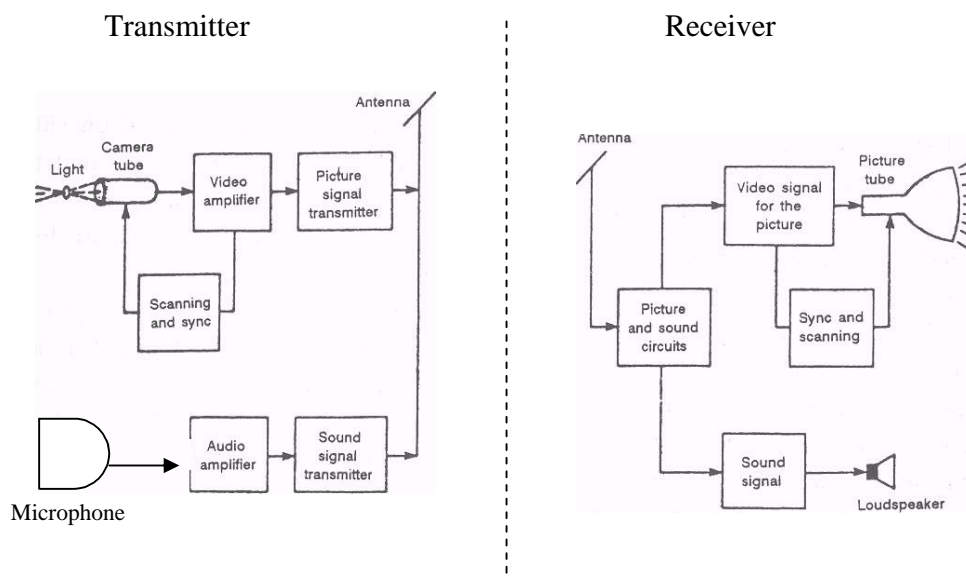

Figure 16-1. Block Diagram of the Television Broadcasting System.
The term 'broadcasting' means to send out in all directions. As illustrated in Figure 16-1, the transmitting antenna radiates electromagnetic radio waves that can be picked up by the receiving antenna. For commercial television broadcast stations, the service area is about 25 to 75 mi in all directions from the transmitter. The radiation is in the form of two rf carrier waves, modulated by the desired information. Amplitude modulation (AM) is used for the picture signal. However, frequency modulation (FM) is used for the sound signal.
Referring to Figure 16-1, we see that the desired sound for the televised program is converted by the microphone to an audio signal, which is amplified for the sound-signal transmitter. For transmission of the picture, the camera tube converts the visual information into electrical signal variations. A camera tube is a cathode-ray tube with a photoelectric image plate.
is necessary to reassemble the picture information on the correct lines. These functions are provided by the block of scanning and synchronizing circuits shown in Figure 16-1 for the transmitter and receiver. The term 'synchronizing' is usually abbreviated *sync*.